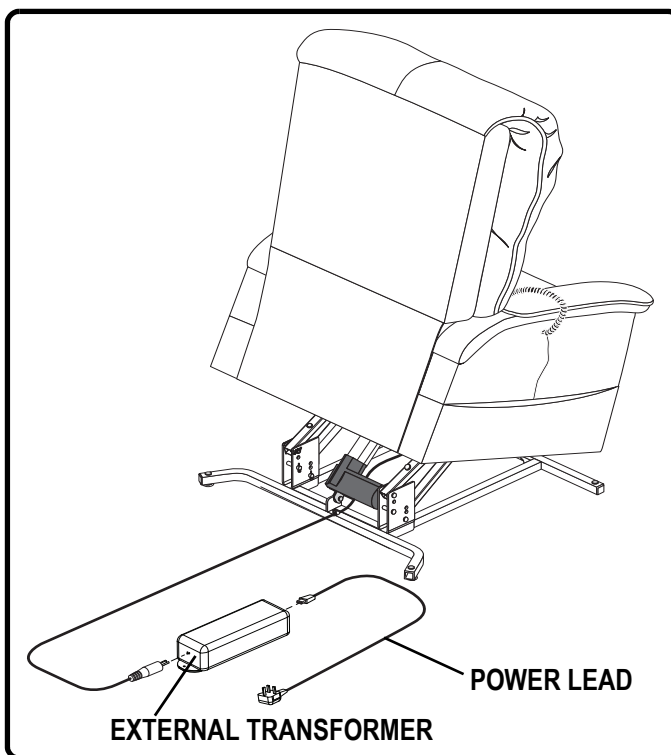

Figure 4.3 Lift Chair Battery Backup Location
3. Install two 9V batteries into the external transformer (Fig. 4.3).